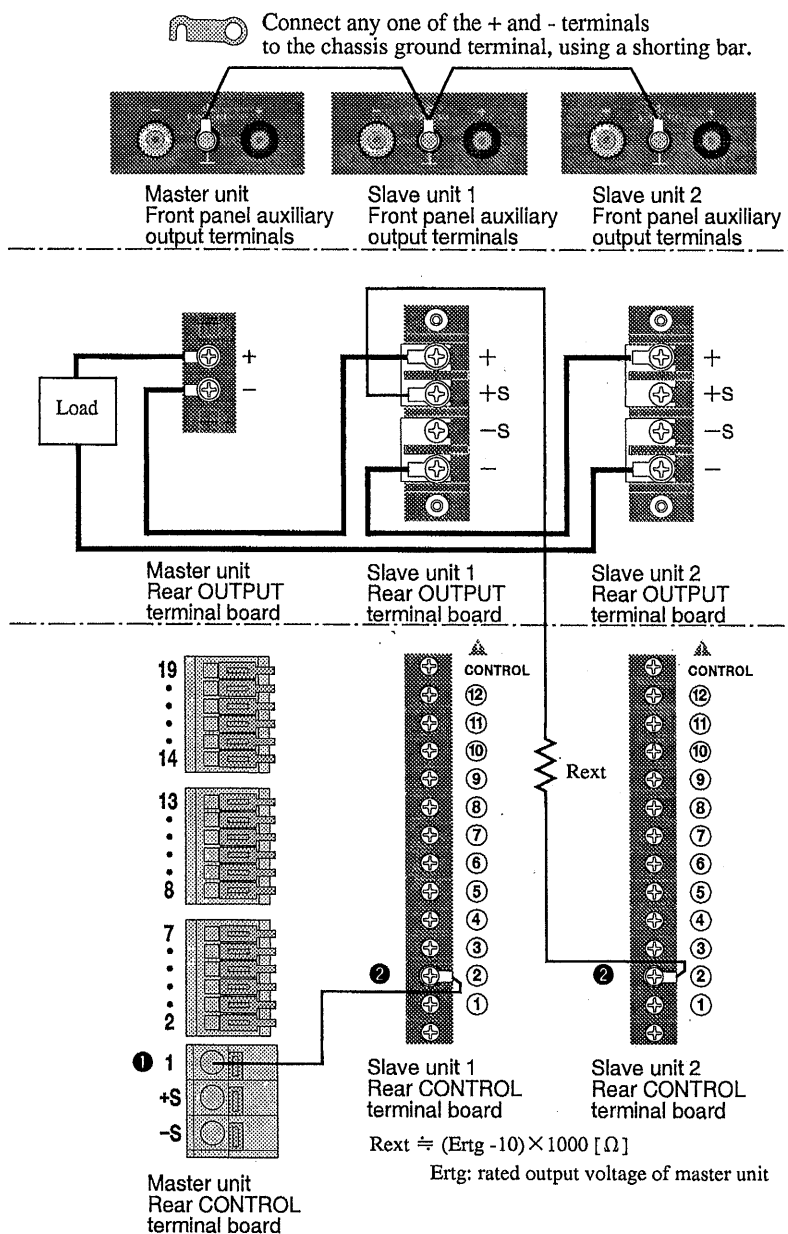
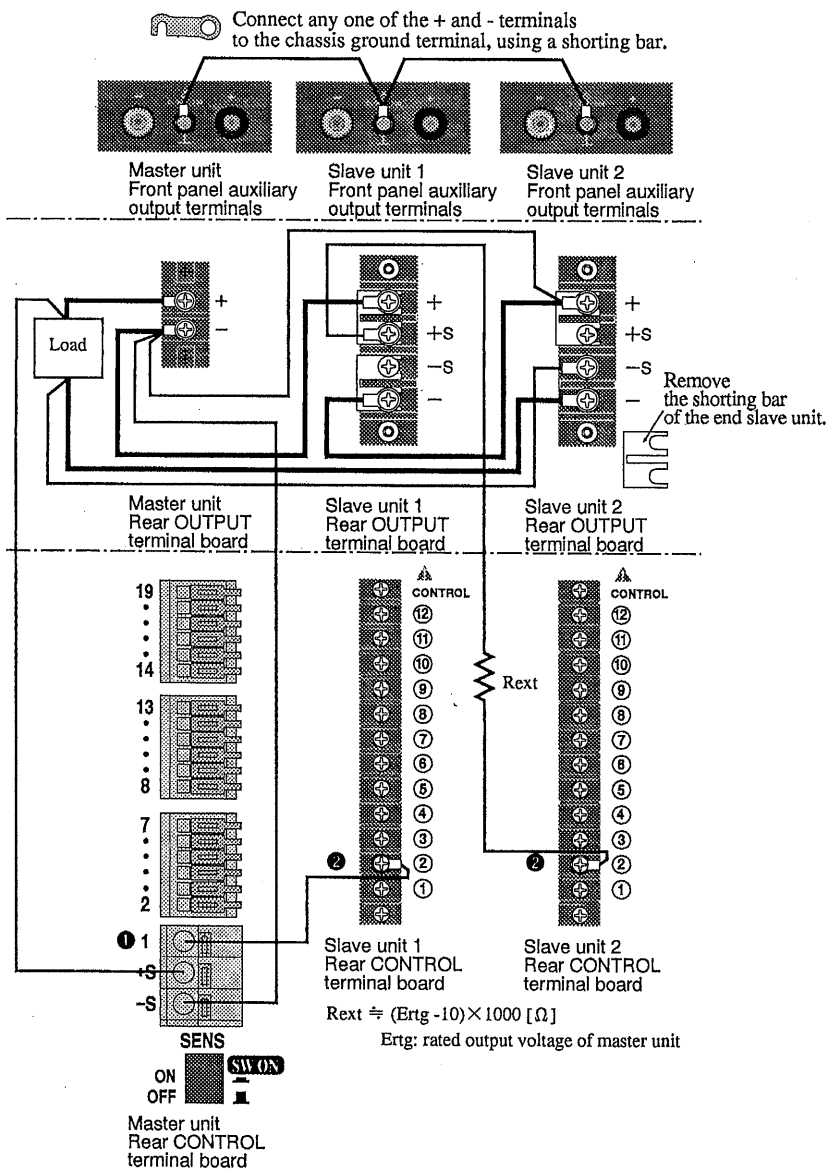

Fig. 3-14D Connection for master-slave-control series operation
Fig. 3-14E Connection for master-slave-control series operation using sensing (When the PAN-A and PAN series are used together)
To combine the PAN-A and PAN series, see Fig. 3-14D. When remote sensing must be performed, see Fig. 3-14E.
- When carrying out master-slave-control series operation with the PAN16-50A and PAN16-50 combined, refer to Fig. 3-14D for connection of the CONTROL terminal board.